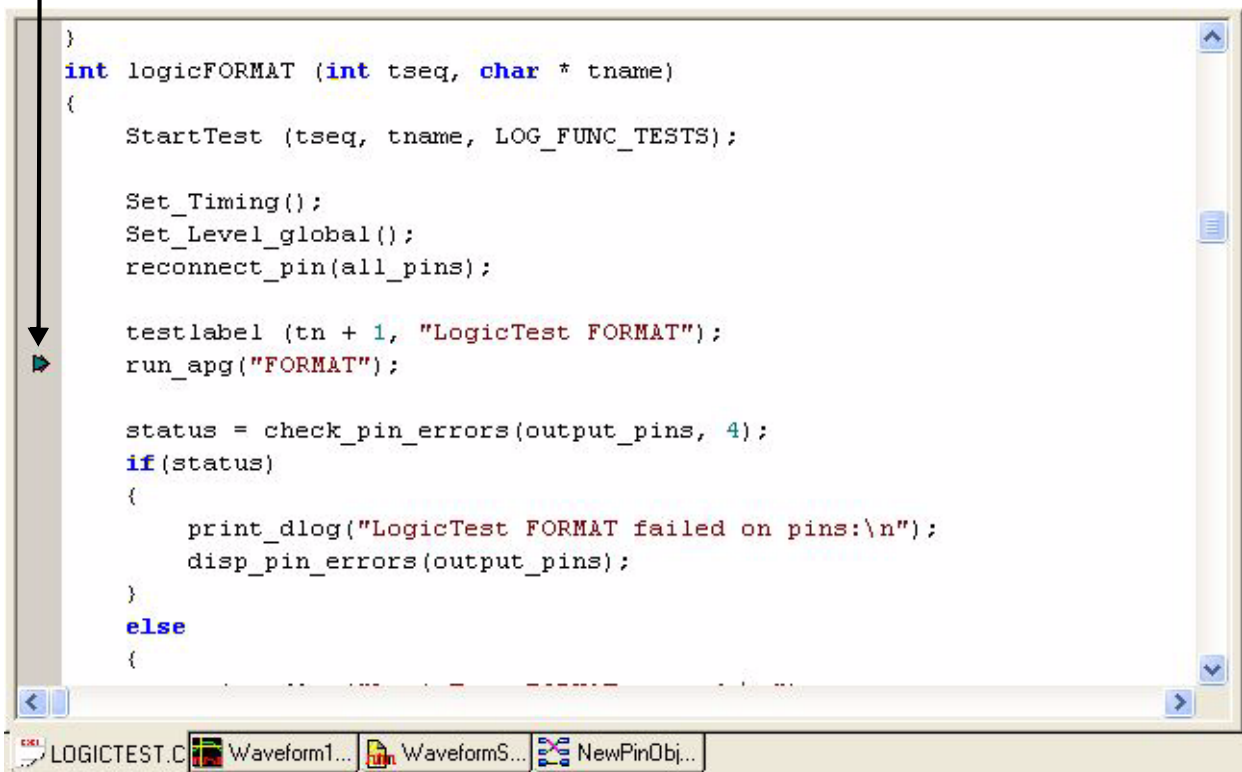

Figure 6-71. Run Program to Break Point
- 2 Selecting the `Debug > Run` command or the Run  toolbar button launches the program and causes it to run to the break point (Figure 6-71). A green arrow displays over the break point where the program stops.